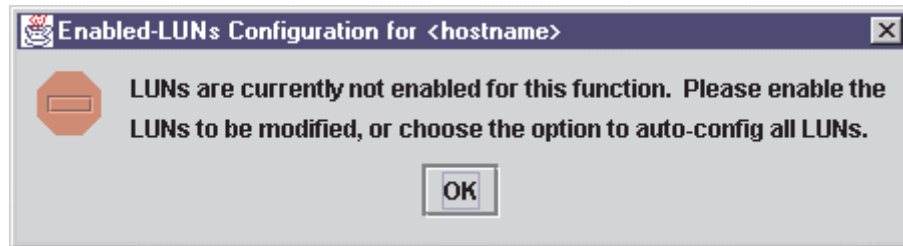

Figure 102. Enabled LUNs Configuration Error dialog window
- Click **Enabled LUNs Only** to configure only those LUNs enabled for load balancing across the paths within this device. If you clicked this option for a device with no enabled LUNs, the message shown in Figure 102 on page 225 is displayed. Click **OK**.